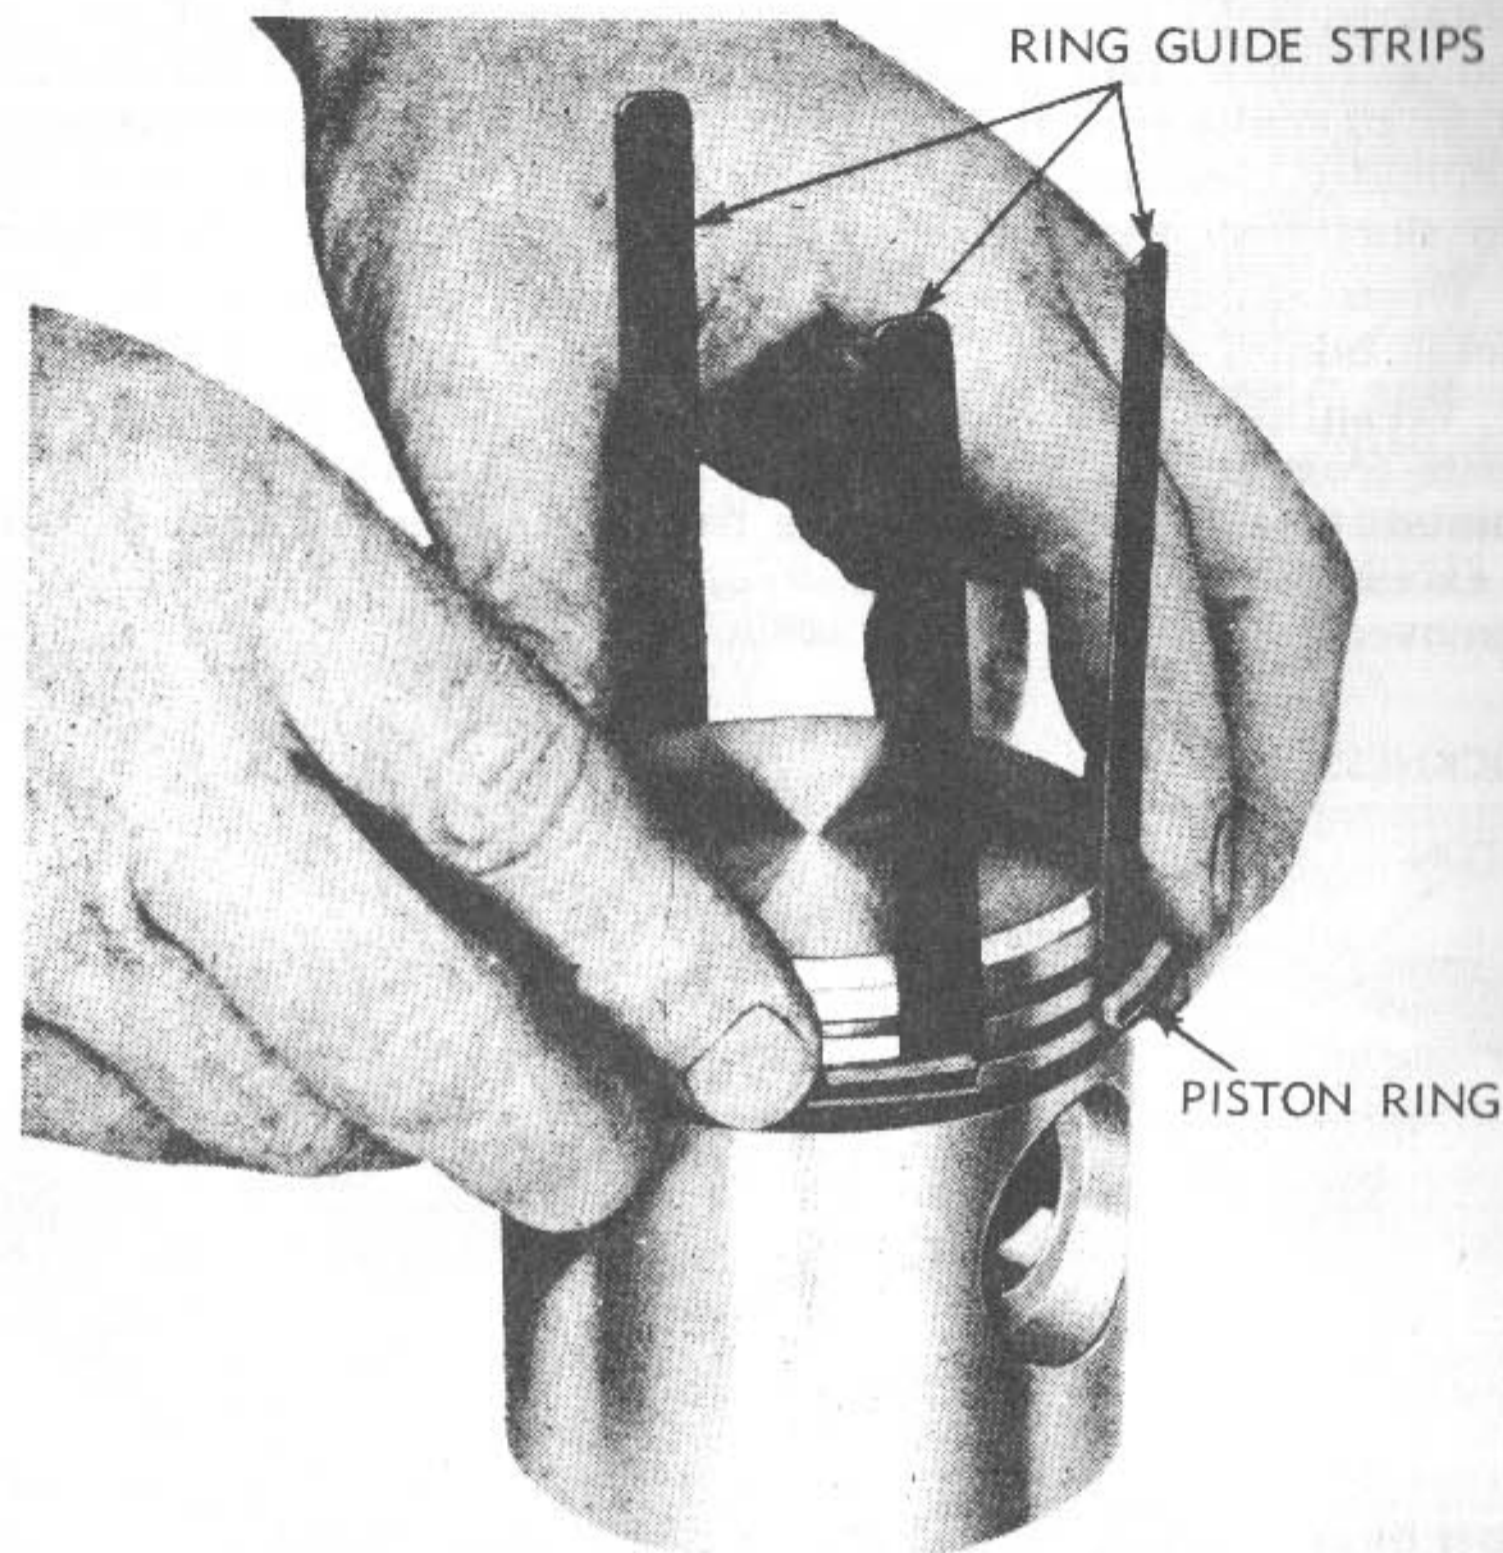

Figure 17—Removing Piston Rings
(3) Use thin pieces of soft metal to guide and slip the rings over the piston into their respective grooves without overexpanding or twisting the rings and damaging the finely finished piston surface (fig. 17).